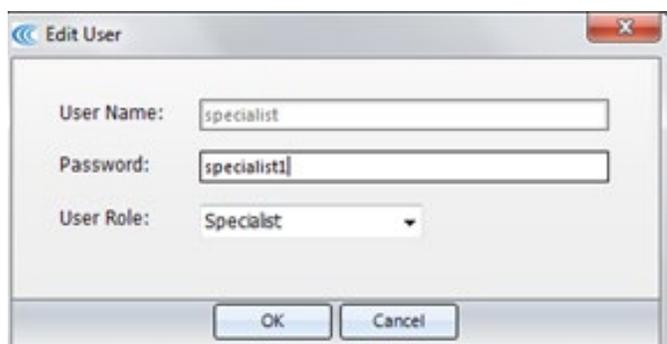

Figure 6.8 Edit User Dialog
- Select the Locked check box. (See **Figure 6.8**)